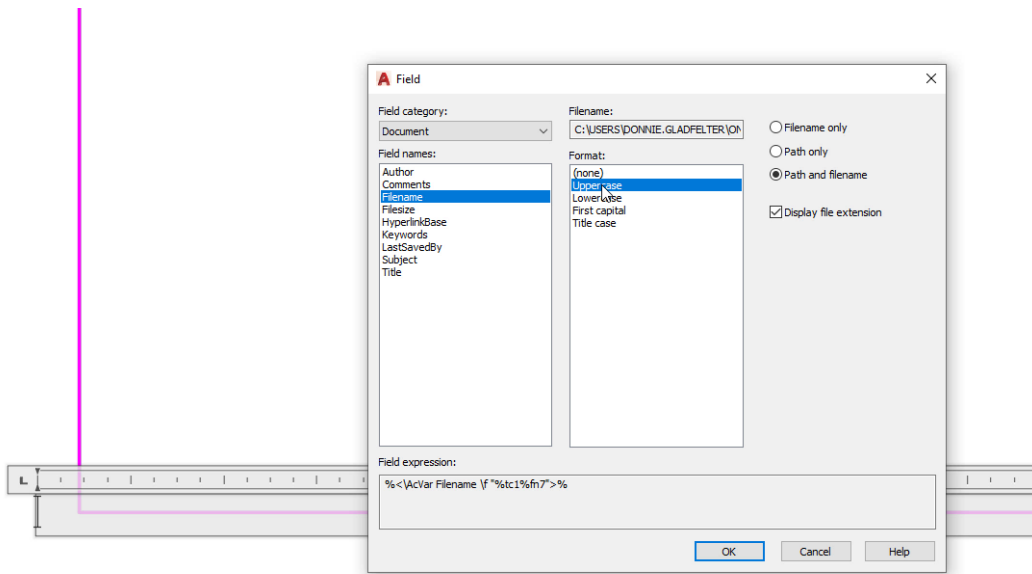

Figure 25: Adding Document property fields to Multiline Text.
2. Choose the Field(s) you would like included in your plot stamp (see Figure 25).